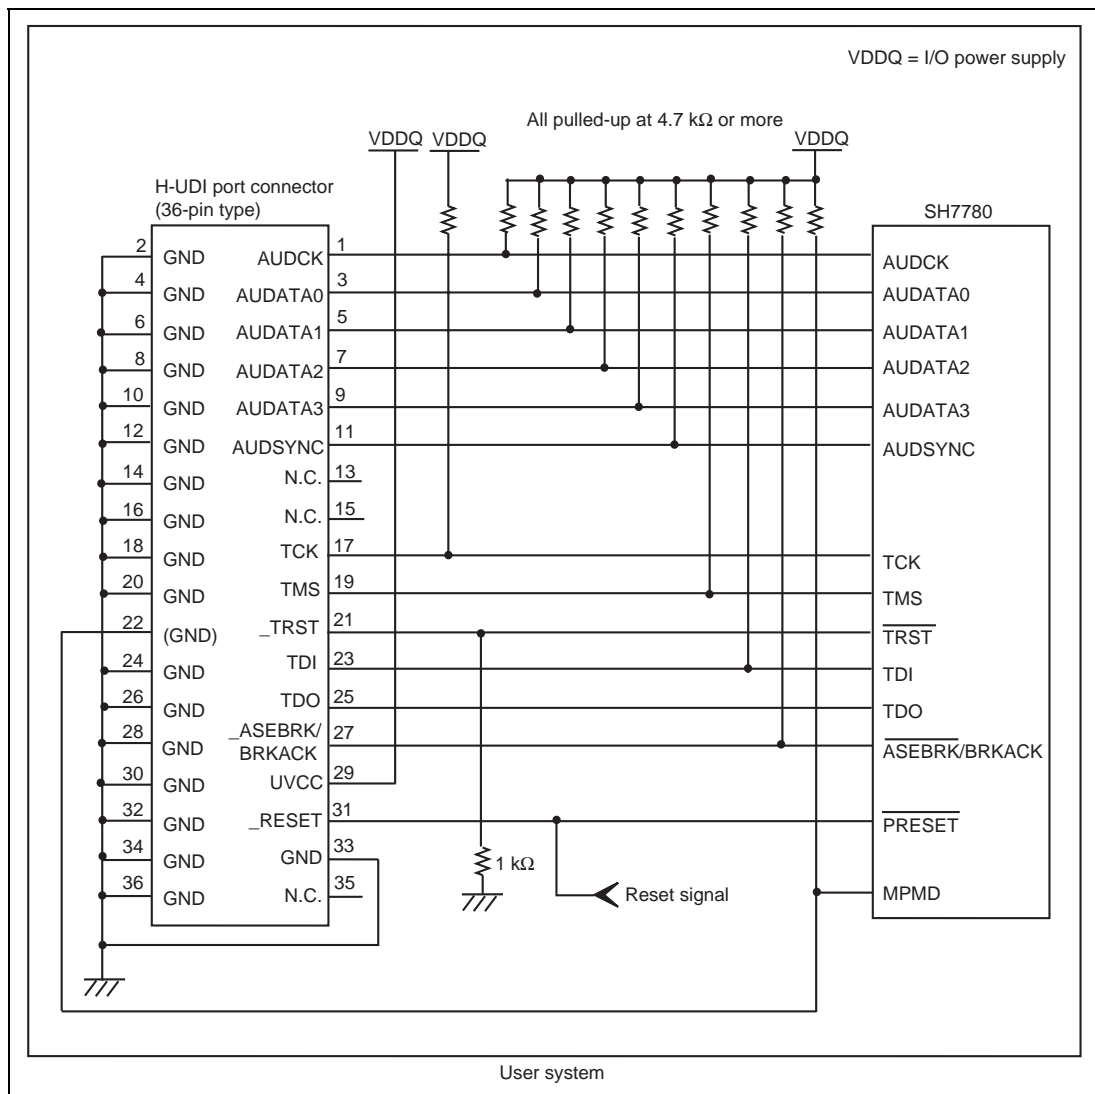

Figure 1.3 Recommended Circuit for Connection between the H-UDI Port Connector and MPU when the Emulator is in Use (36-Pin Type)
Figure 1.3 shows a recommended circuit for connection between the H-UDI and AUD port connectors (36 pins) and the MPU when the emulator is in use.
- (1) When the emulator is used: $MPMD = 0$
- (2) When the emulator is not used: $MPMD = 1$Figure 1.3 shows an example of circuits that allow the MPMD pin to be GND (0) whenever the emulator is connected by using the user system interface cable. When the MPMD pin is changed by switches, etc., ground pin 22. Do not connect this pin to the MPMD pin.
7. The resistance values shown in figure 1.3 are preliminary.
When the circuit is connected as shown in figure 1.3, the switches of the emulator are set as SW2 = 1 and SW3 = 1. For details, refer to section 3.8, Setting the DIP Switches, in the Debugger Part of the SuperH™ Family E10A-USB Emulator User's Manual.